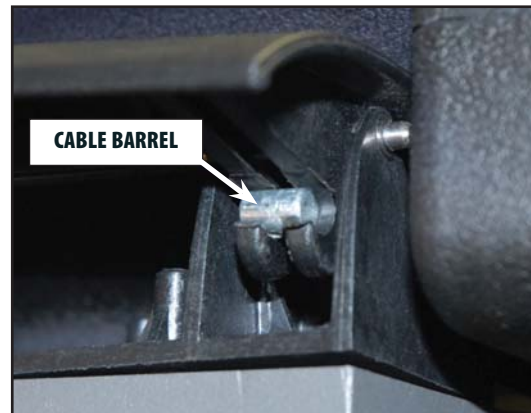

FIGURE 6.7
4. Lift the Lever and use the small flat-head screwdriver to push the Barrel end of the Cable up to release from the Barrel Holder. Refer to **Figure 6.7**.